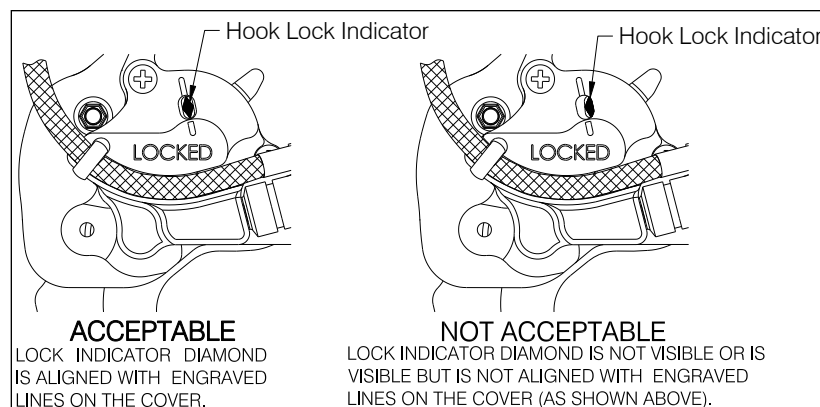

Figure 5 – Hook Lock Indicator
- Push up on the load beam and verify that it latches and the hook lock indicator is aligned with the engraved line on the manual release cover (see **Figure 5**).